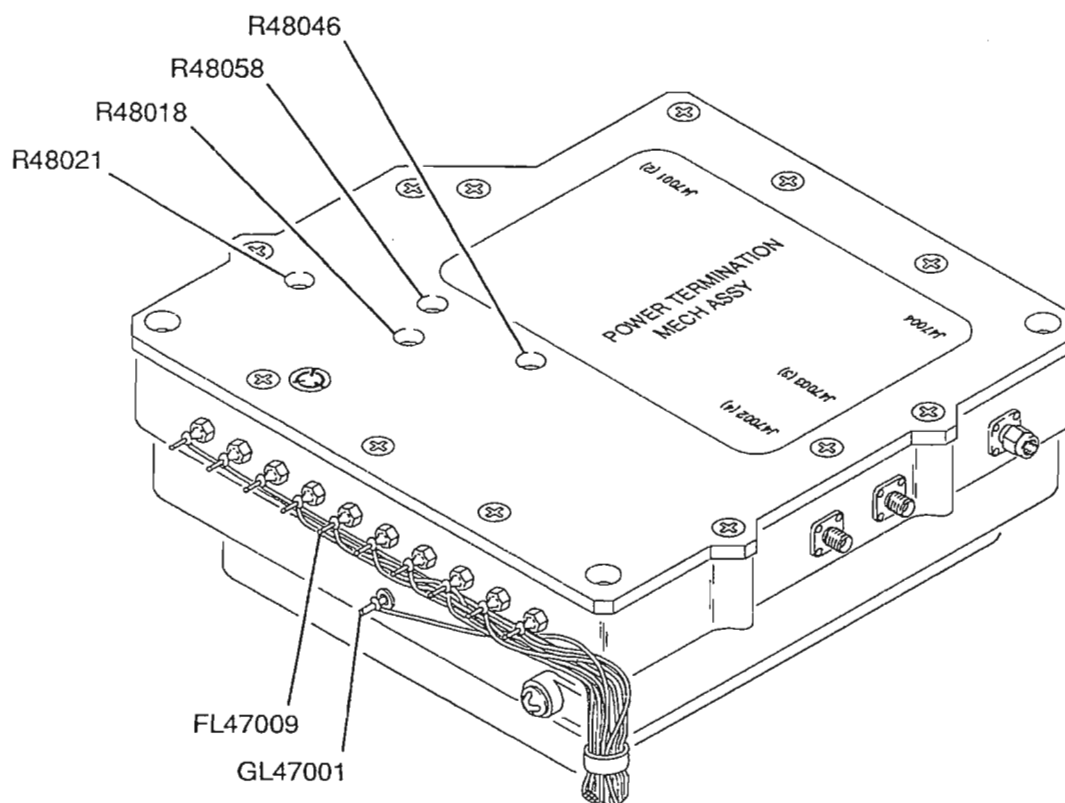

Figure 3-24 Power Term Assembly Calibration Points
FIGURE REFERENCES: Figure 3-24
1.	Connect DMM positive lead to FL47009 and negative lead to GL47001 (Figure 3-24).
2.	Apply power to FM/AM-1600S. Allow 5 minute warm-up period. Insure IFR Logo, with no error message, is displayed on CRT (26).
14. Use DATA ENTRY Keypad (29) to set data field to **150.0000 MHz**. Press ENTER Key.
15. Use FIELD SELECT Keys (1) to move cursor to RF IN. Press ENTER Key to select **T/R**.
16. Use FIELD SELECT Keys (1) to move cursor to PWR. Press ENTER Key to access POWER METER Operation.
18. Use DATA SCROLL Keys (3) to set data field to **20 mW**. Press ENTER Key.
19. Verify 0 V (± 1.0 mV) is displayed on DMM. Adjust R48021 (Figure 3-24) if needed.
21. Verify 0 V (± 1.0 mV) is displayed on DMM. Adjust R48018 (Figure 3-24) if needed.
22. Press ENTER Key to highlight RANGE data field. Use DATA SCROLL Keys (3) to set data field to **2 W**. Press ENTER Key.
24. Verify 4.00 V (+0 mV, -50 mV) is displayed on DMM and 2.0 W (± 0.2 W) is displayed on CRT (26).
33. If detected voltage in step 32 is not within tolerance, alternately adjust R48018 (Figure 3-24) and R48046 (Figure 3-24) until proper level is obtained.